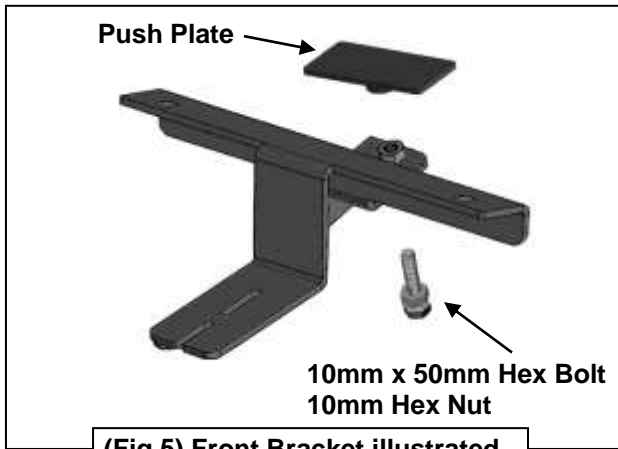
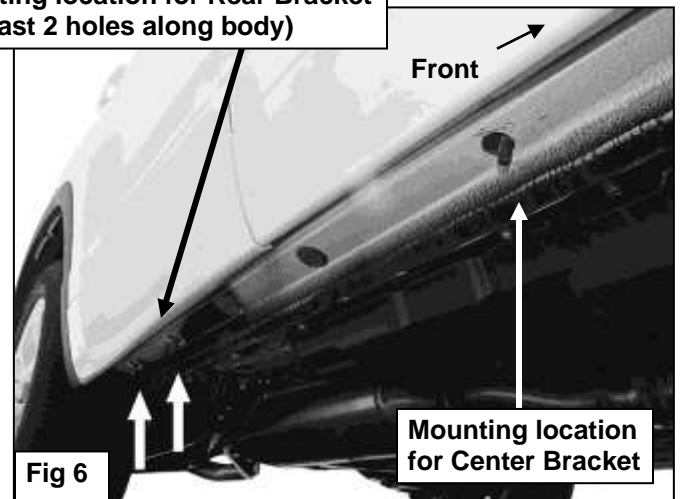

**Fig 3) Scrape excess body sealant as necessary from all locations before installing Brackets**
**Fig 4**
- Starting on the passenger side of the vehicle, locate the (9) rubber plugs along the lower body panel. From the front, remove the 3rd and 4th round plugs, **(Figure 1)**. Select (2) Bolt Plates, **(Figure 2)**. Check the location for body sealant and scrape away excess as necessary, **(Figure 3)**. Insert each Bolt Plate into the factory hole with the long end of the plates facing each other, **(Figures 1 & 3)**. Hold a Front Bracket over the Bolt Plates and line up the (2) mounting holes, **(Figure 4)**. Secure the Bracket to the Bolt Plates with (2) 10mm Flat Washers, (2) 10mm Lock Washers and (2) 10mm Hex Nuts, **(Figure 4)**. Snug but do not tighten hardware at this time.
- Next, select (1) Support Plate, (1) 10mm Hex Nut and (1) 10mm x 50mm Hex Bolt, **(Figure 5)**. Thread the 10mm Hex Nut all the way down the long Hex Bolt. Screw the Hex Bolt and Nut a few threads into and through the Nut welded onto the back tab on the front Bracket. Insert the Support Plate with the welded socket facing down, into the space between the Front Bracket and the floor panel behind the pinch weld, **(Figures 4, 5 & 12)**. Tighten the Hex Bolt into the socket on the Support Plate until the Plate is close to but not touching the floor panel. Do not tighten hardware at this time.